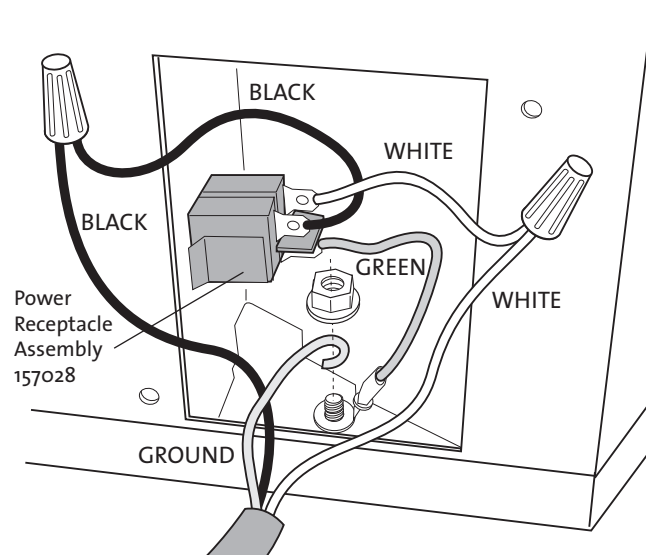

Figure 6.2. Hard wiring at the junction box. See also electrical wiring diagram, Appendix 10.3, page 38.
2. Use wire nuts to connect the house current wires to the black and white leads as indicated in fig. 6.2.